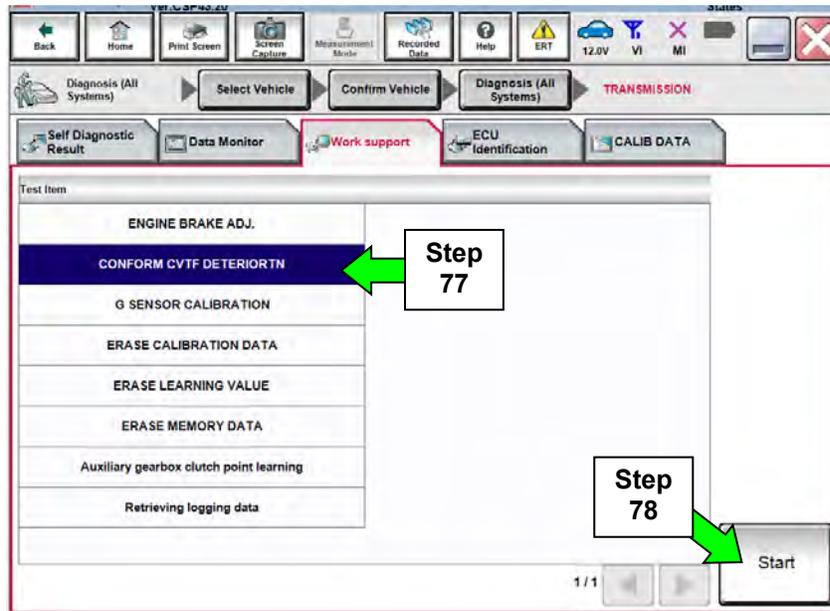

Figure 45
76. Navigate C-III plus to the screen shown in Figure 45.